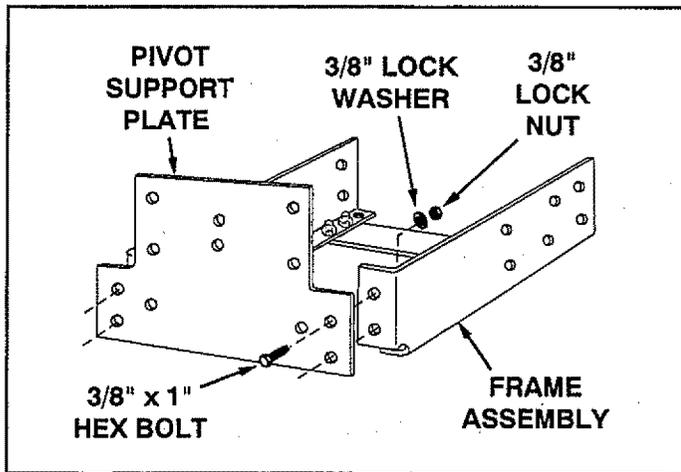

FIGURE 13
- Remove the four bolts fastening the pivot support plate to the frame assembly. Turn the frame assembly upside down and refasten the pivot support plate using the original bolts, lock washers and lock nuts. See figure 13.